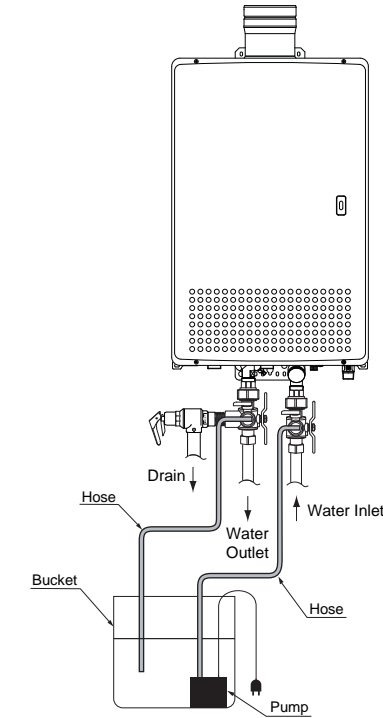

Figure 3. Flush Procedure
5. Connect the pump outlet hose to the cold water drain valve of the EXP valve as shown in **Figure 3**.
6. Connect a drain hose to the hot water drain valve outlet of the EXP valve as shown in **Figure 3**.